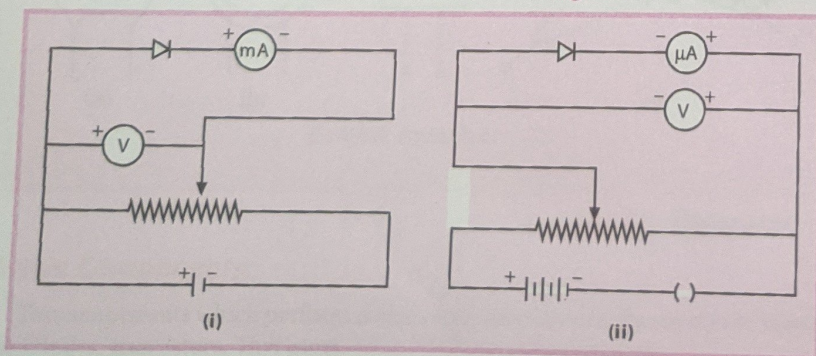

Fig. 3.4.
Step 1. Make electrical connection as shown in Fig. 3.4(i).
- Step 1. Make the electrical connection as showing in Fig. 3.4(ii).